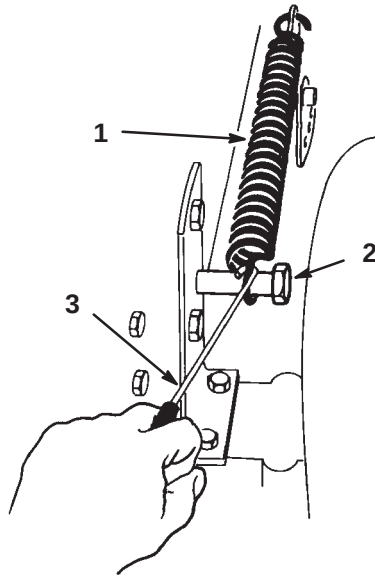

Figure 10
16. Hook the lift assist spring between the mower right side lift bracket and the retaining bolt (Fig. 10).